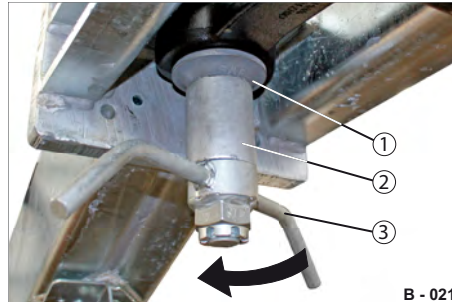

Fig. 20 Securing the towing eye D50 at bottom
- Engage the shim rest (Fig. 20/1) and the spacer (Fig. 20/2) from below on the fastening bolt of the towing eye (Fig. 19/3).
- Screw the wing nut (Fig. 20/3) onto the fastening bolt.